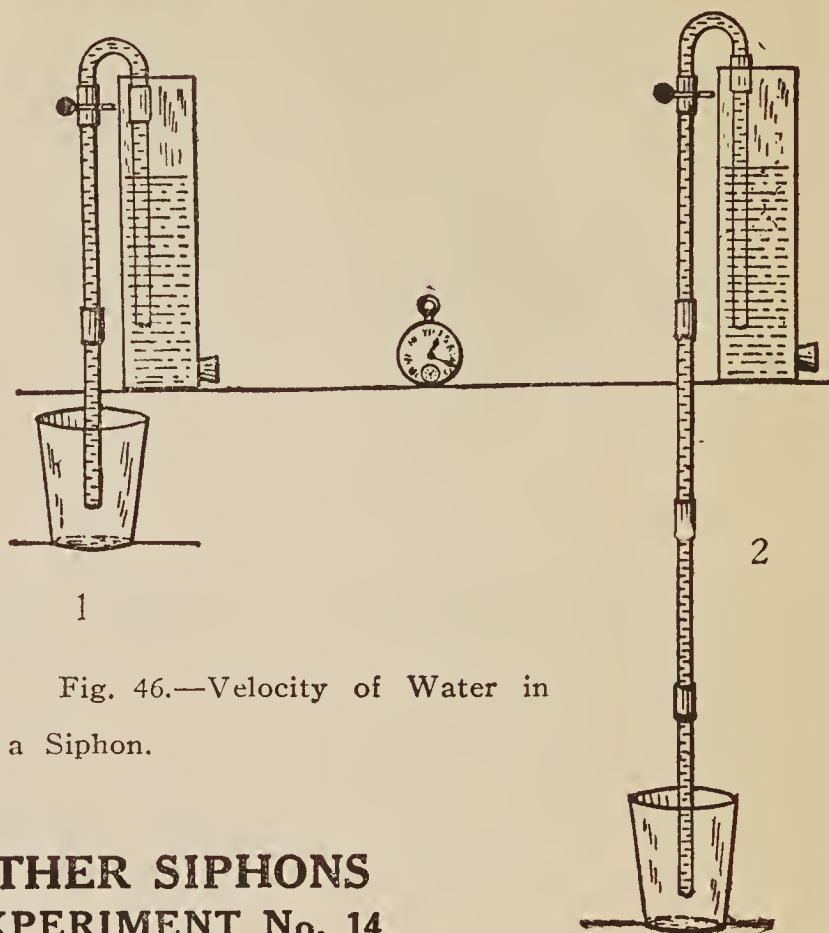

Fig. 46.—Velocity of Water in a Siphon.
Arrange the siphon with a small difference in water level as shown in (1) Fig. 46 and allow the water to run for 15 seconds; then arrange it with a greater difference as in (2) Fig. 46 and again allow the water to run for 15 seconds.